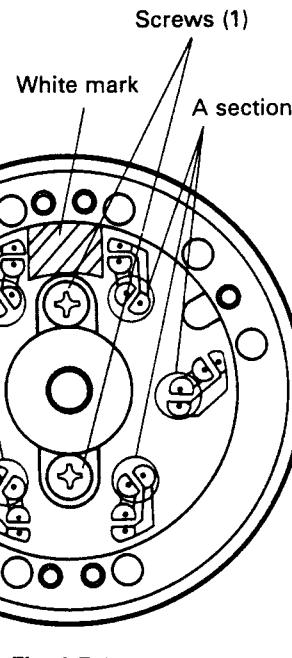
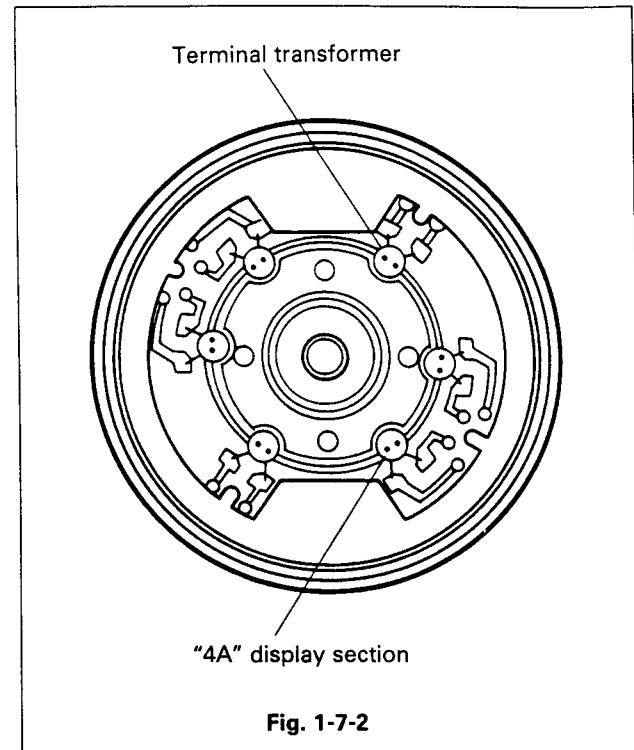

Fig. 1-7-1
Fig. 1-7-2
1-7. REPLACEMENT OF ROTARY DRUM ASSEMBLY (Figures 1-7-1, 1-7-2)
- (1) Remove the ground plate assembly, refer to item 1-6.
- (2) Desolder wire leads soldered at twelve locations marked A as shown in Figure 1-7-1.
- (3) Remove two screws (1) and then the drum assembly upward.
- (4) Clean the flange surfaces of the lower drum and the rotary drum assembly, using alcohol (isopropyl). Next, position the rotary drum assembly so that its white mark faces the mark "4A" on the rotary transformer as shown in Figure 1-7-2, and then make sure eight pins of the terminal transformer are matching to the holes of the circuit board provided on top of the rotary drum assembly. Then carefully slide down the rotary drum in place.